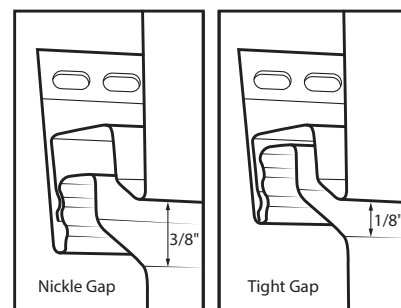

Figure 5.2.2
- Seated in the Tight-Gap (Figure 5.2.2), Versalok provides a smooth reveal with minimal gap.
- *NOTE:* The leg of the upper panel should not be bottomed out in the lock, as this can cause inadvertent stresses leading to oil canning. With minimal upward pressure the plank can be pulled into the upper Nickel-Gap reveal position. (Figure 5.2.2)